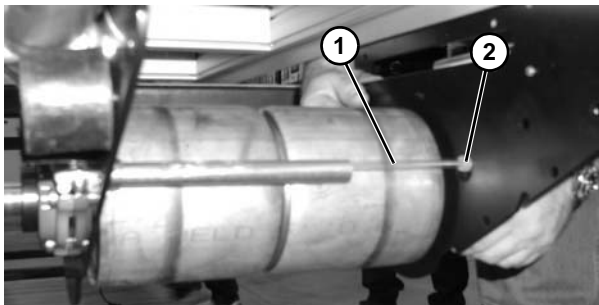

Figure 119
7. Disconnect flexible air hose (**Figure 119, item 1**) from fitting (**Figure 119, item 2**).